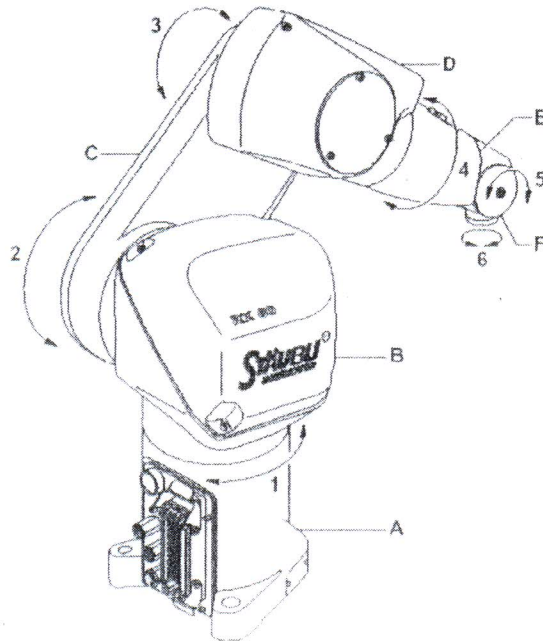

Figure 4: Elements of robot arm
Based on Staubli-RX90 robot joints, shown in **Figure 4** answer the questions below
- (b) Referring to **Figure 4**; define the robot by its physical configuration. (2 marks)
- (e) Give **two** (2) example of industrial application for Staubli-RX90. (4 marks)